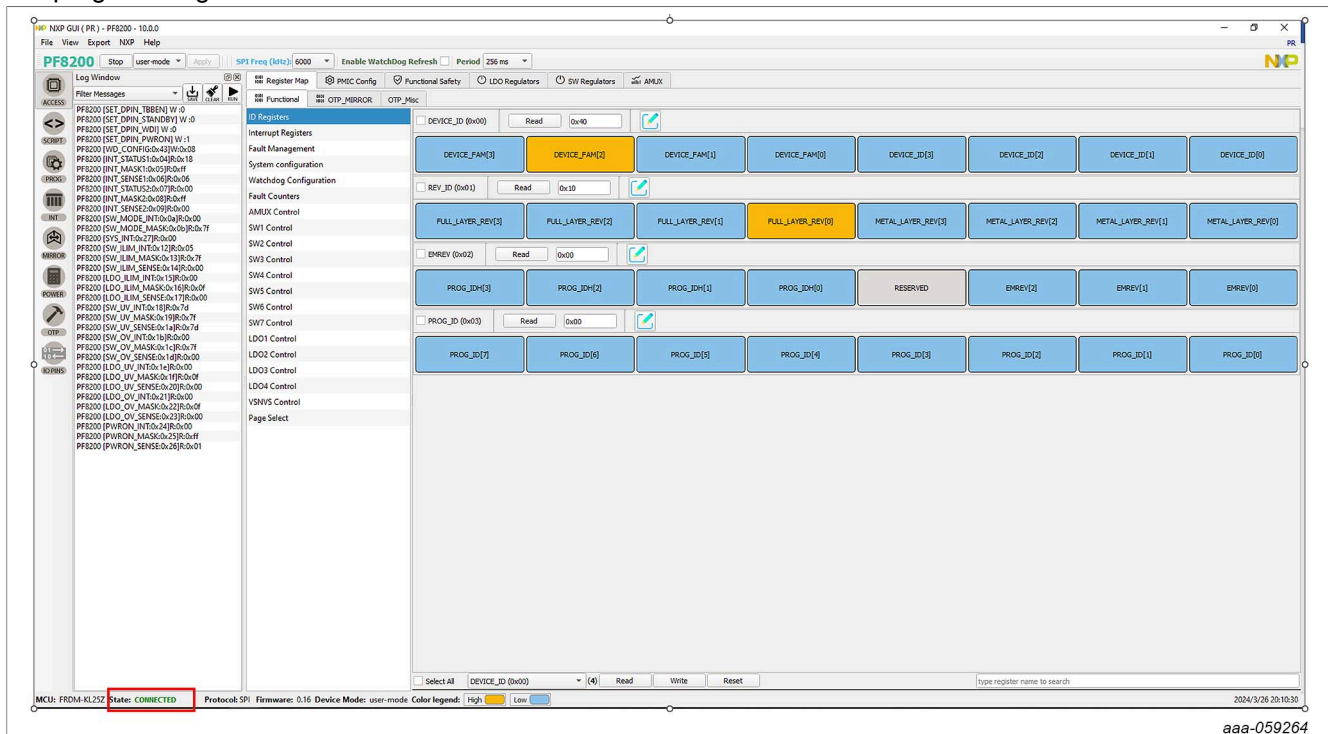

Figure 20. Connecting the GUI
2. Open the GUI as in Figure 20, and put the device in the socket. Make sure the GUI kit selected is the same as the part being programmed. For example, if a PF8200 blank part needs to be programmed, the PF8200 GUI kit will be selected and open.
3. Click the **Start** button of the GUI. If the firmware is good, the FRDM-KL25Z state will be shown as **CONNECTED** as in Figure 20. Once the device is connected, the system is ready to perform OTP programming.